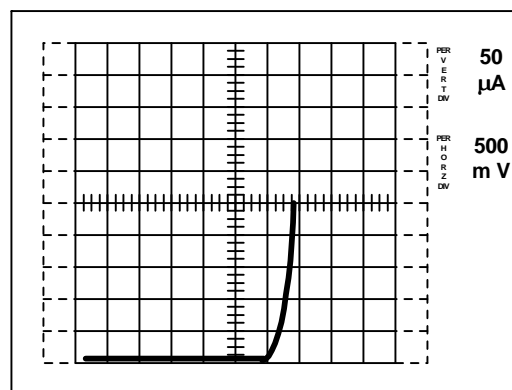

Figure 4. Gate-source threshold voltage
10. Connect the device using the LEFT/ RIGHT switch. Increase the VARIABLE COLLECTOR VOLTAGE until the drain current reaches 250 microA as indicated by the trace on the screen. Read the voltage on the horizontal center line (since this line corresponds to $I_D = 250 \text{ mA}$) (see Figure 4).